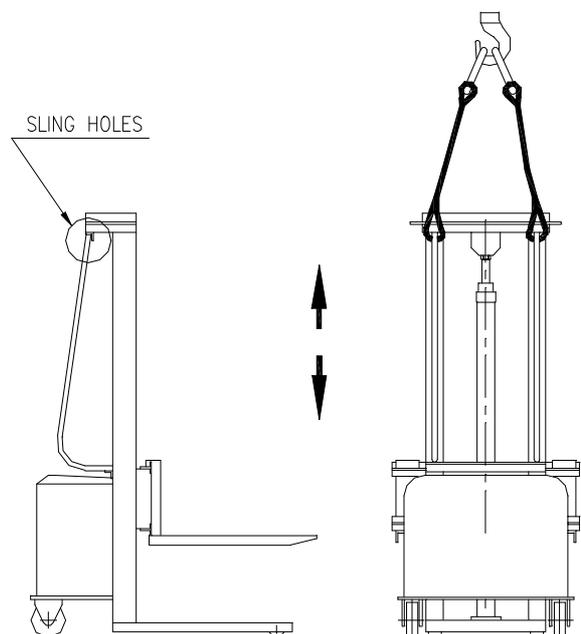

Fig. 3.1 Machine lifting points
- Sling the machine in the appropriate holes foreseen in the upper part of the mast as in Fig. 3.1 *Machine lifting points*.